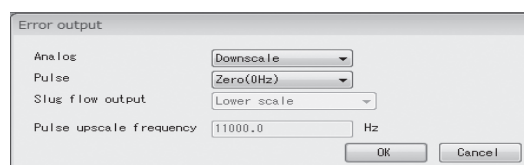

Fig.52
- ① Click on "Setup (S)" > "Outputs" > "Error output" in the menu.
- ② The following window will be displayed (Fig. 52). Set the analog and pulse output level for when errors occur here.